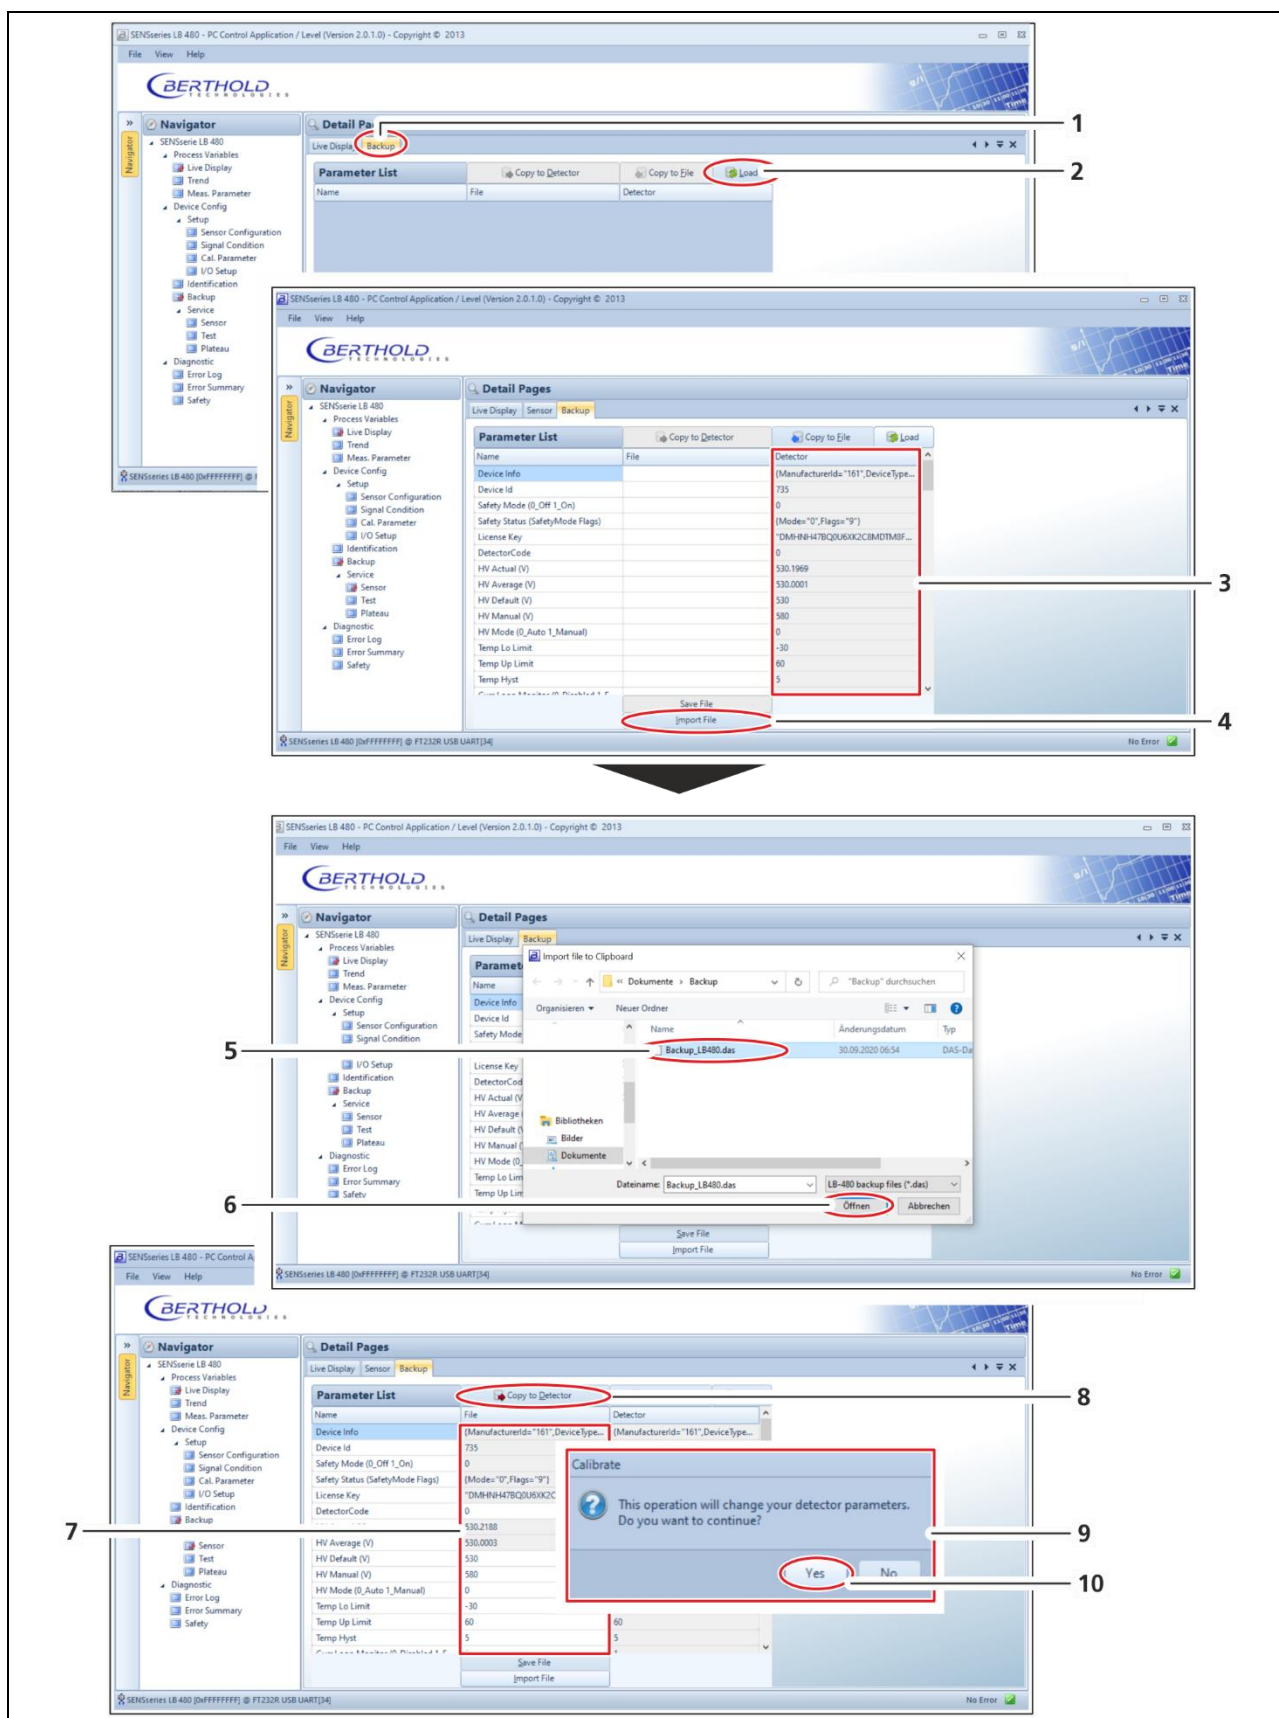

Fig. 9 Transfer the data to the detector
31. Open the software *LB 480-PC UserInterface* in the menu tree **Device Config ► Backup** (Fig. 9, Pos.1) and click on the button **<Load>** (Fig. 9, Pos.2).
- All default values are displayed in the column "Detector" (Fig. 9, Pos.3).
32. Click on the button **<Import File>** (Fig. 9, Pos.4).
33. Select the backup file created in step 15 (Fig. 9, Pos.5) and click on the button **<Open>** (Fig. 9, Pos.6).
- The stored calibration data and settings are displayed in the column "File" (Fig. 9, Pos.7).
34. Click on the button **<Copy to Detector>** (Fig. 9, Pos.8).
- A confirmation window (Fig. 9, Pos.9) is displayed.
35. Click on the button **<Yes>** (Fig. 9, Pos.10) to transfer the data to the detector.